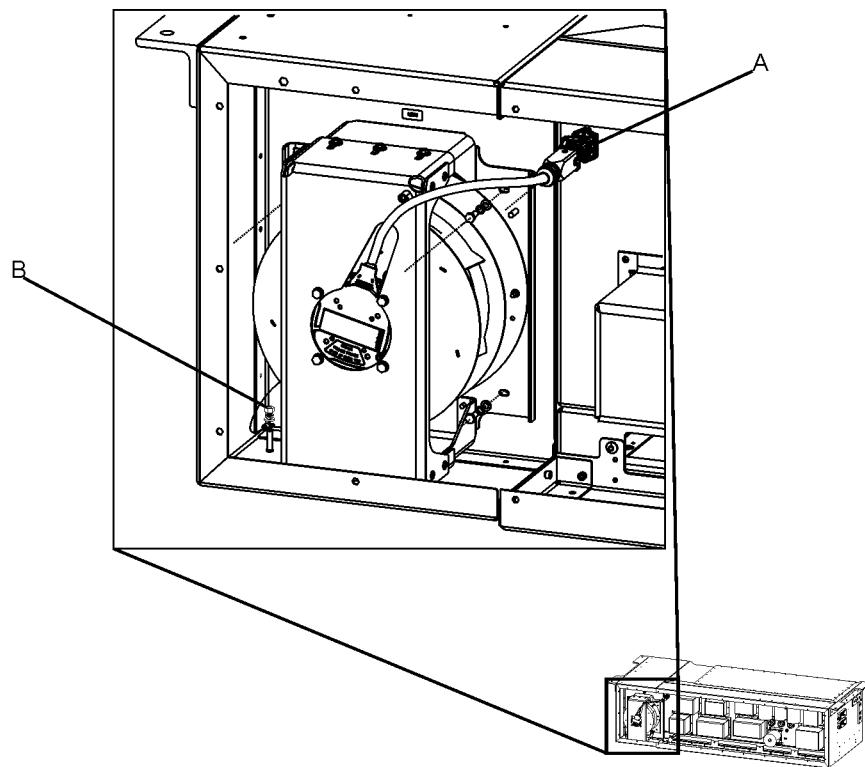

Figure 5-72: M901 Electrical Connections
- a. The M901 is connected to the converter at X901 by a single latching plug (see Figure 5-72). Unlatch the plug (A) and disconnect the M901.
- b. The M901 is grounded at a grounding stud on the floor of the APS to the left of the blower unit at a single grounding point (B) using M6 nut, M6 Schnorr washer and M6 flat washer. Remove these fasteners and disconnect the grounding cable.
4. Connect M901 (see Figure 5-72).
- a. The M901 is grounded at a grounding stud on the floor of the APS to the left of the blower unit at a single grounding point (B) using M6 nut, M6 Schnorr washer and M6 flat washer. Connect the ground cable and affix these fasteners.
- b. The M901 is connected to the converter at X901 by a single latching plug (A). Connect the plug and latch it into place.